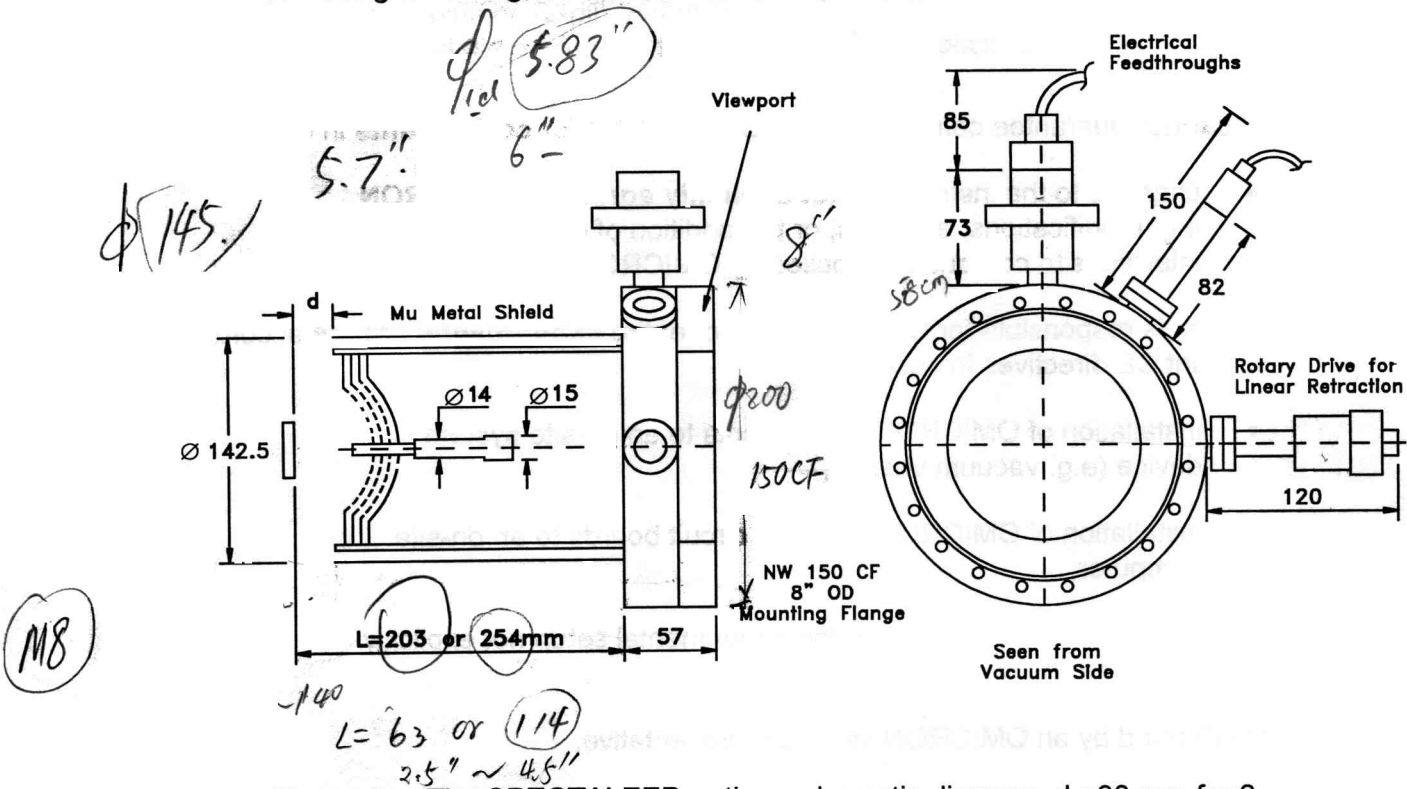

Figure 1. The SPECTALEED optics, schematic diagram.  $d = 30$  mm for 2-grid version, 26 mm for 3-grid version and 22 mm for 4-grid version.
5. Weight  $\approx$  15 kg, for dimensions see figure 1 below.